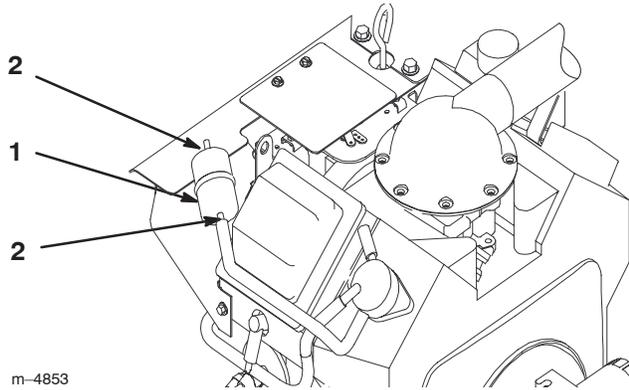

Figure 65
3. Squeeze the ends of the hose clamps together and slide them away from the filter (Fig. 65).